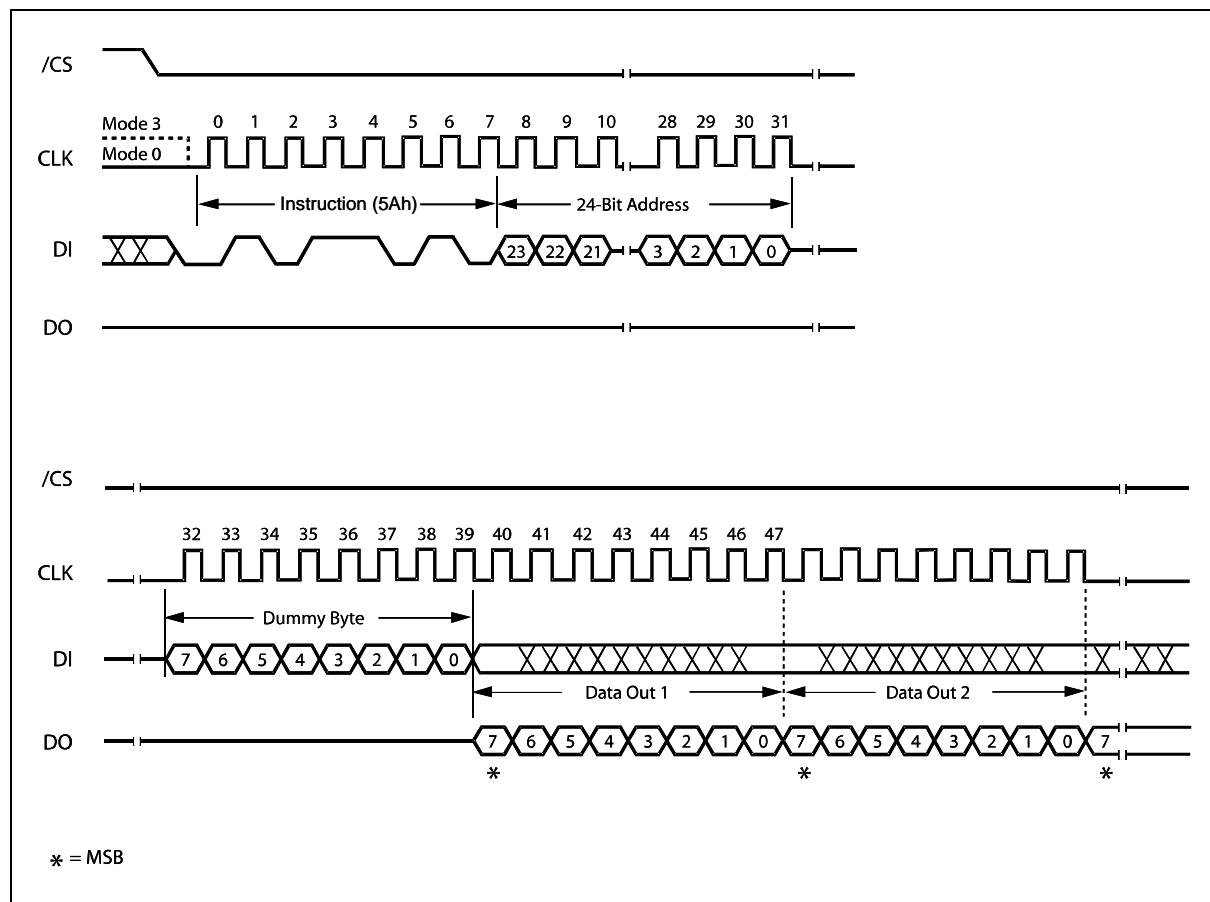

Figure 34. Read SDFP Register Instruction Sequence Diagram
The Read SDFP instruction is initiated by driving the /CS pin low and shifting the instruction code “5Ah” followed by a 24-bit address (A23-A0)(1) into the DI pin. Eight “dummy” clocks are also required before the SDFP register contents are shifted out on the falling edge of the 40th CLK with most significant bit (MSB) first as shown in figure 34. For SDFP register values and descriptions, refer to the following SDFP Definition table.